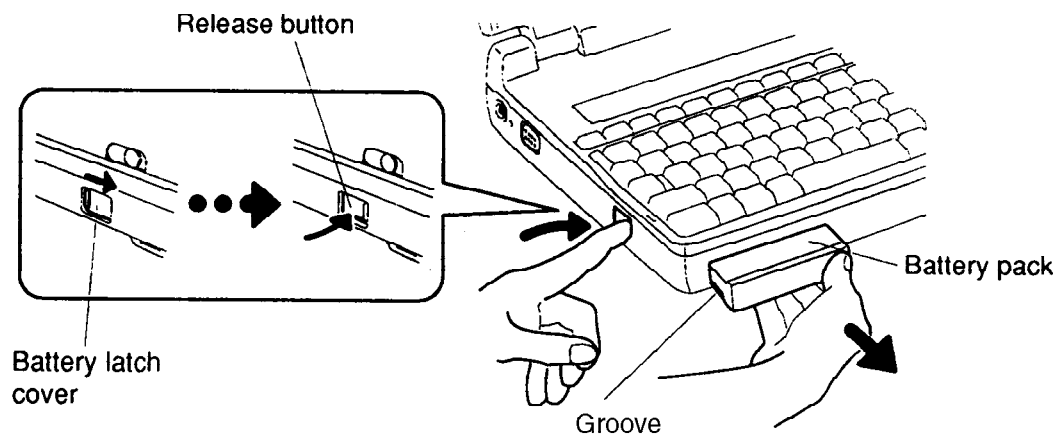

Figure 4-1 Removing the Battery Pack
To remove the T1900/T1900C battery pack, follow the steps below and refer to Figure 4-1.
2. Slide open the **cover** to the **battery latch** (located on the left, front of the computer) and press the **release button** until it clicks. The battery will pop out slightly (Figure 4-1).
To install the battery pack, follow the steps below and refer to Figure 4-1.